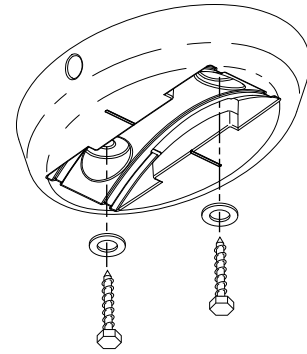

Figure 10
2. Secure the fan unit base to wall or ceiling into building structure using the two lag bolts and flatwashers provided. **Figure 10**